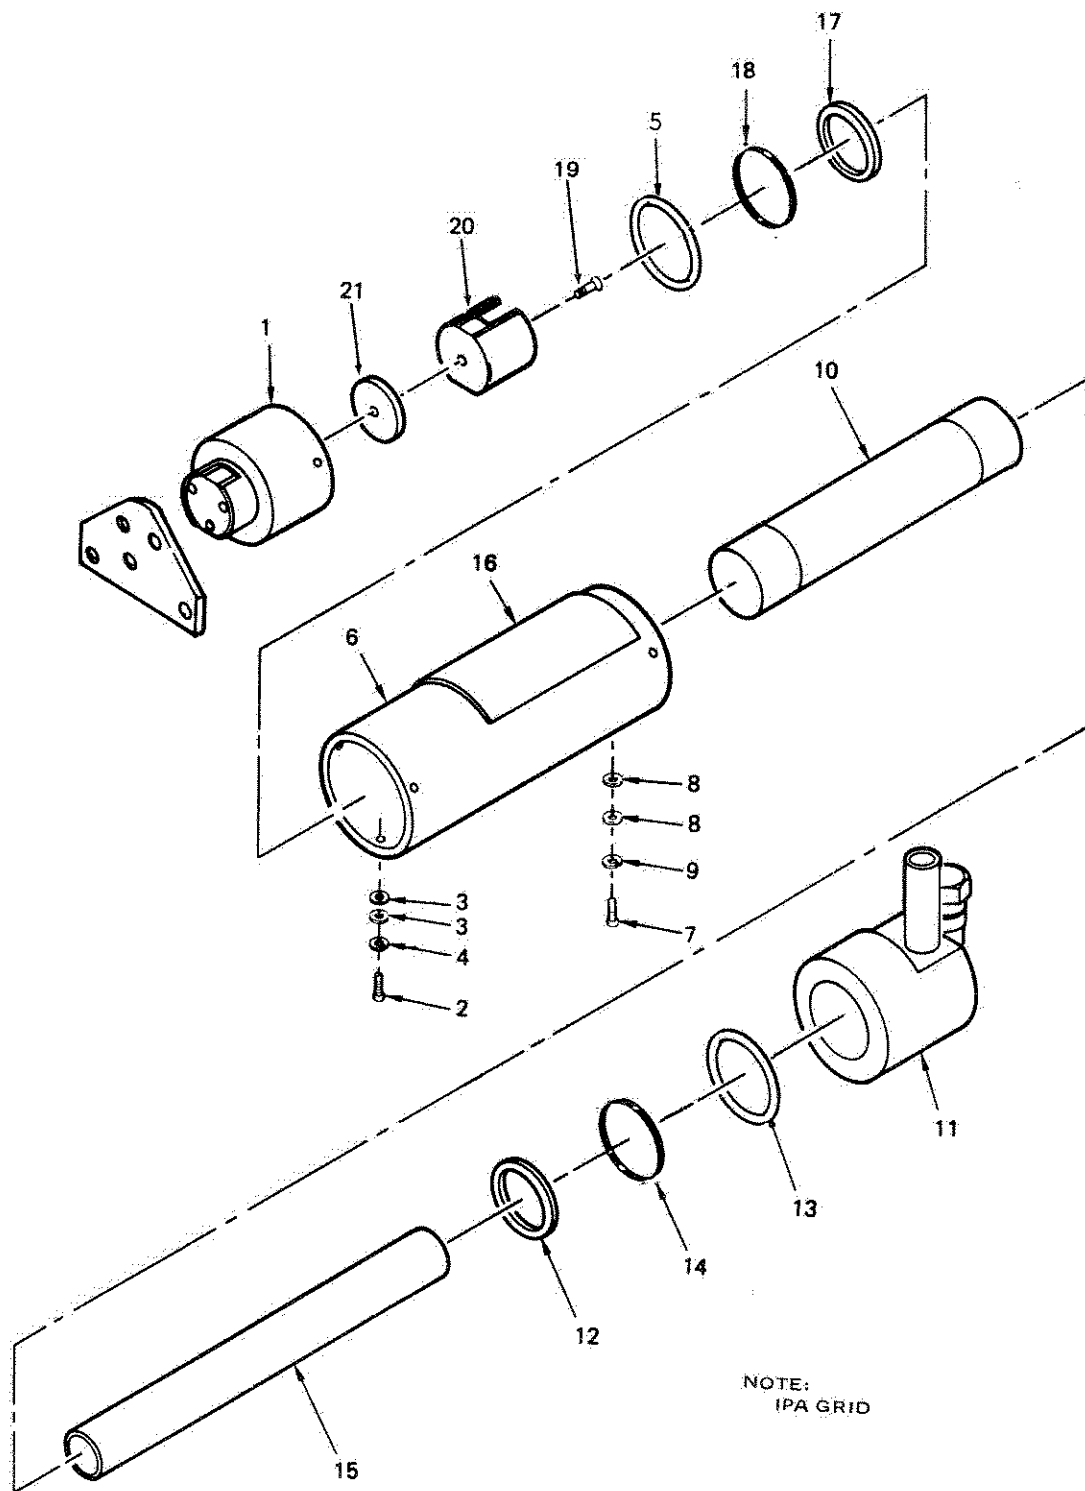

Figure 6-124. 1AT1 Disassembly/Reassembly
1. To disassemble 1AT1, refer to Figure 6-124 and perform the following.
- a. Top contact (1) removal.
2. To reassemble 1AT1, refer to Figure 6-124 and perform the following.
- a. Bottom contact (11) installation.
- b. Resistor R1 (10) installation. Hold bottom contact (11) securely. Slide resistor (10) over center tube (15) and into bottom contact (11). Slowly rotate resistor cw while pushing it into bottom contact with firm but gentle force.
- c. Envelope (6) installation.
- (1) Position envelope (6) so WARNING decal (16) is as shown in Figure 6-124. Slide envelope over resistor (10) and line up screw holes with those of bottom contact (11).
- (2) Install lockwasher (9), two flat washers (8), and screw (7); three places.
- d. Top contact (1) reassembly.